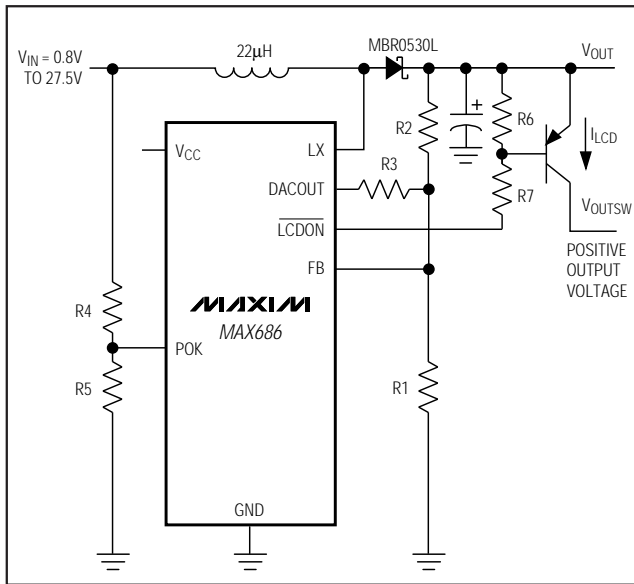

Figure 6. Using the POK for Input Voltage Monitoring
POK is the input to the power-OK comparator. The comparator drives an internal N-channel MOSFET. The MOSFET's open-drain output,  $\overline{\text{LCDON}}$ , can drive an external PNP transistor or P-channel MOSFET, switching a positive  $V_{\text{OUT}}$  to the LCD (Figures 6 and 7). When the voltage at POK exceeds 1.125V (power OK),  $\overline{\text{LCDON}}$  goes low, turning on the external PNP transistor. When the voltage at POK drops below 1.125V (power not OK), the external PNP transistor turns off, cutting off power to the LCD display. This feature ensures that the LCD display is not damaged due to improper voltage levels. During shutdown or undervoltage lockout,  $\overline{\text{LCDON}}$  is high impedance.
When the voltage at POK is greater than 1.125V (typical), the open-drain LCDON output pulls low. LCDON can withstand up to 27.5V to control an external PNP transistor to switch on the MAX686's positive output (Figures 6 and 7). A PFET can also be used, but a resistor-divider must be used in conjunction with it, so that the PFET does not exceed its  $V_{GS}$  rating. Three useful applications of this feature are as follows:
- *An input-sensing cutoff for positive outputs.* Connect POK to a voltage divider to sense the input voltage. The output switches on only when the input reaches the set level (Figure 6).
For input voltage sensing, a resistor-divider (R4-R5, Figure 6) from VIN to POK controls the open-drain output LCDON, which pulls low when  $V_{POK} > 1.125V$ . Choose  $R5 = 100k\Omega$ . For example, if the minimum battery voltage is 5.3V, then determine R4 as follows: